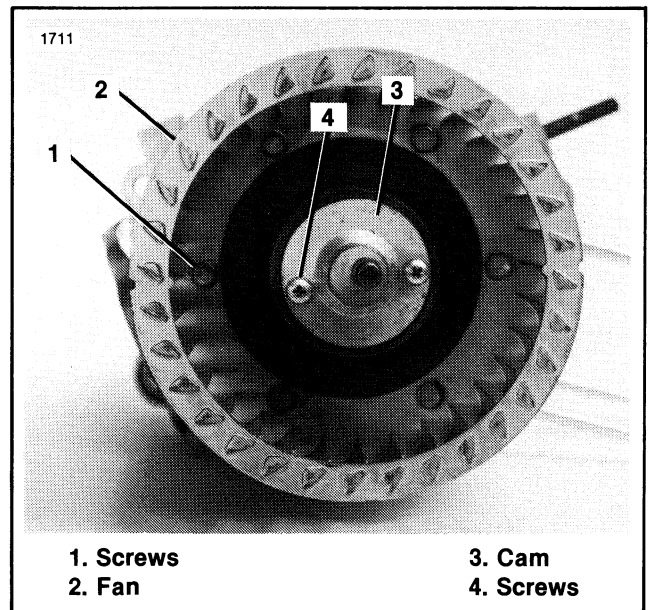

Figure 5-16. Fan And Cam Mounting
6. See Figure 5-16. If the fan is to be replaced, remove the screws (1) and fan (2). Remove the cam (3) and screws (4).